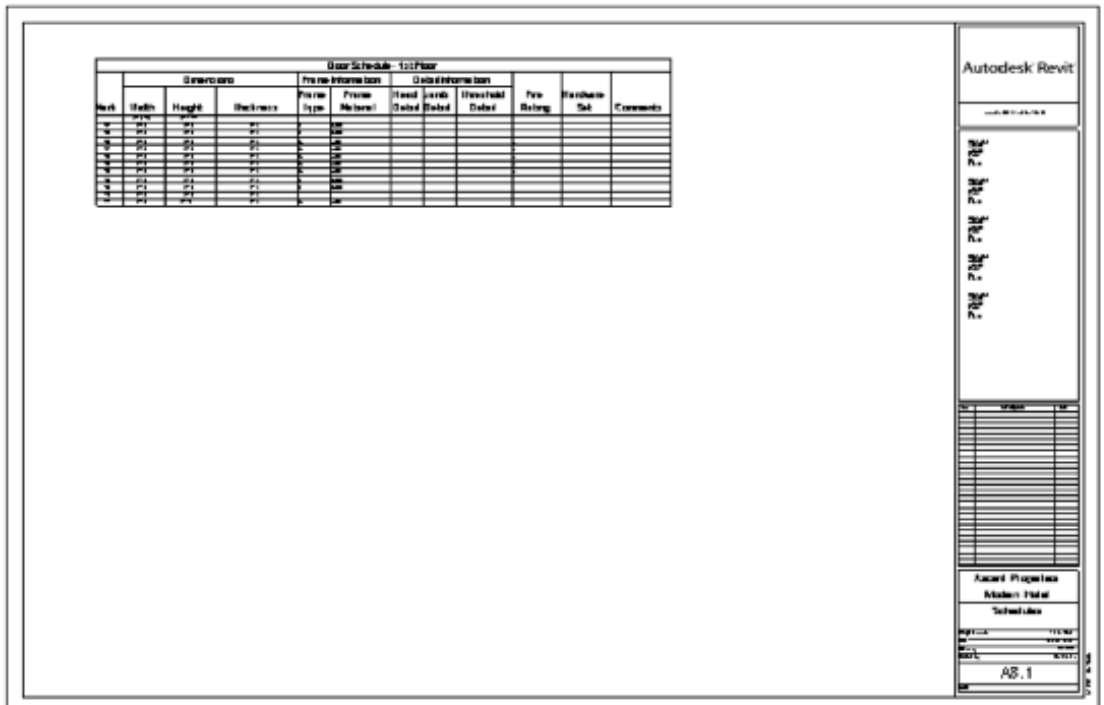

Figure 15–40
In this practice you will add information to a door schedule and to elements that are connected to the schedule. You will then place the schedule on a sheet, as shown in Figure 15–40.
3. Double-click on **Door Schedule - 1st Floor** to open it. The existing doors in the project are already populated with some of the basic information included with the door, as shown in Figure 15–41.